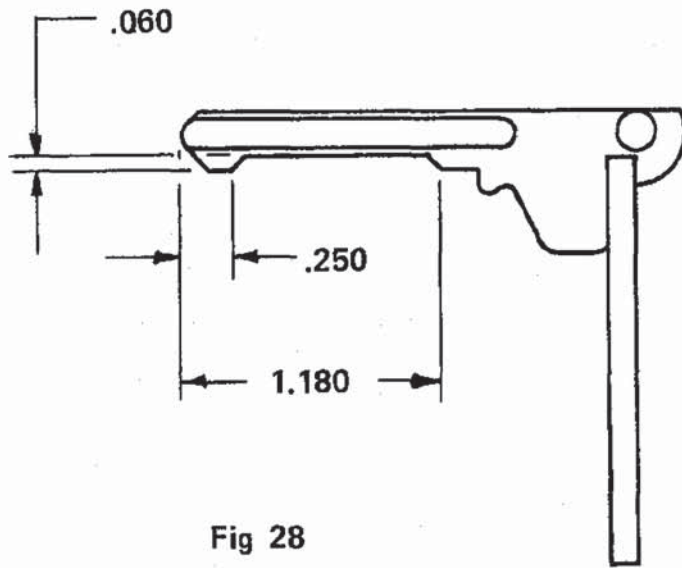

Fig 28
**SCHLAGE PICKING PROCESS** — You must first make yourself a set of picking keys. This is accomplished by altering a No. 1 and 2 key blank as shown in Figures 28 & 29. These key blanks both receive a .060 deep cut on both sides. On the side of the tip cut, the entire key is removed to the same level as the tip cut. On the opposite side, a .060 deep cut is made to the dimensions given.